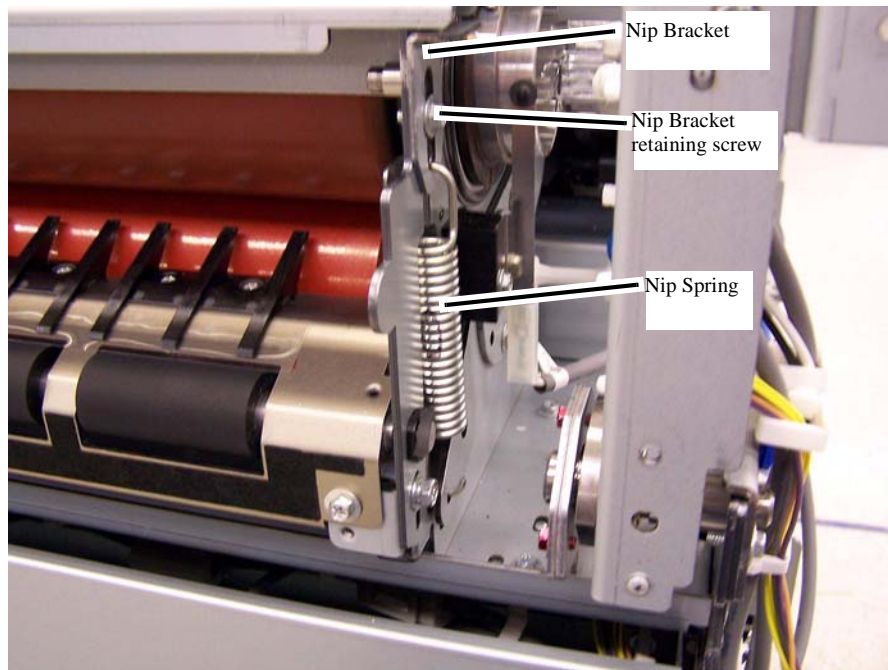

Figure 4 Left Nip Bracket, Nip Bracket retaining screw, and Nip Spring (right identical)
2. Using a 5.5mm combination wrench, loosen the Nip Bracket retaining screw on the side that requires adjustment (Figure 4).